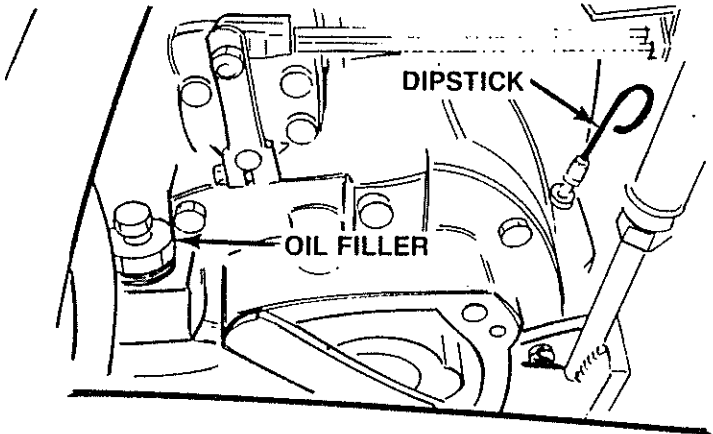

Figure 3-4 Checking Transmission Oil Level
7. See Figure 3-4. Check transmission oil level. Pull out dipstick and make sure the level is up to the FULL mark.